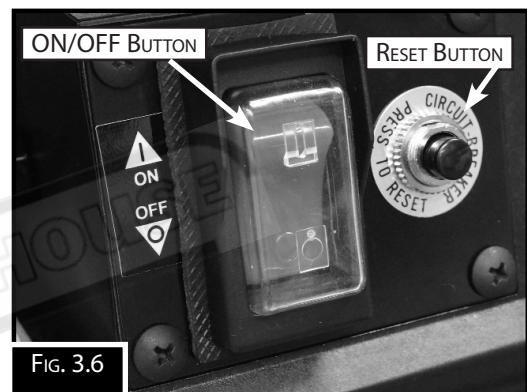

FIG. 3.6
**ON/OFF Switch:** Starts/stops the spindle and the drive rollers of the Thicknesser. (Fig. 3.6)